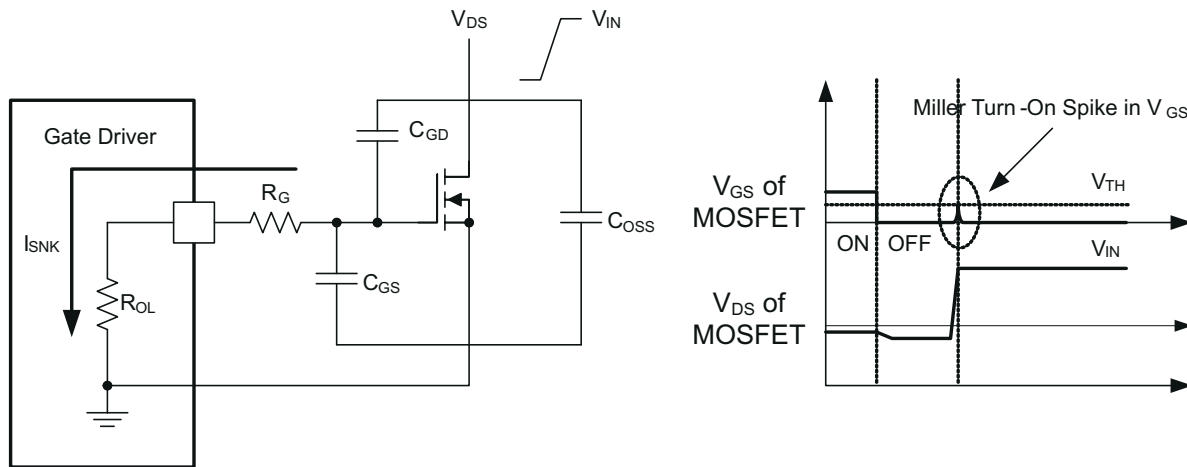

图 7-3. Low Pull-Down Impedance in UCC27332-Q1 (Output Stage Mitigates Miller Turnon Effect)
An example of a situation where Miller turnon is a concern is synchronous rectification (SR). In SR application, the dV/dt occurs on MOSFET drain when the MOSFET is already held in OFF state by the gate driver. The current charging the C_{GD} Miller capacitance during this high dV/dt is shunted by the pulldown stage of the driver. If the pulldown impedance is not low enough then a voltage spike can result in the V_{GS} of the MOSFET, which can result in spurious turnon. This phenomenon is illustrated in 图 7-3.